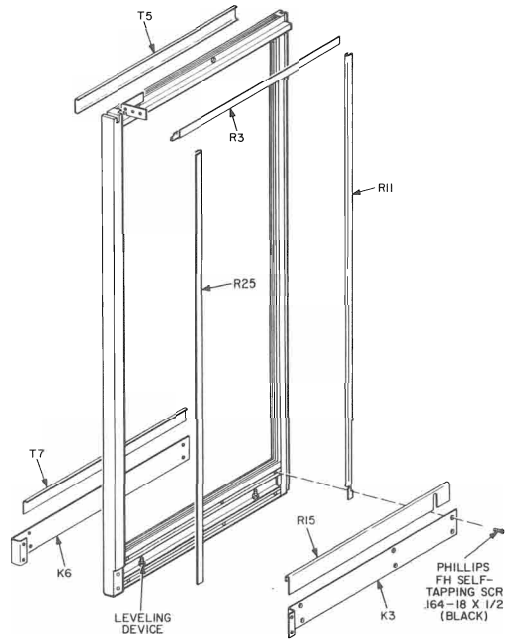
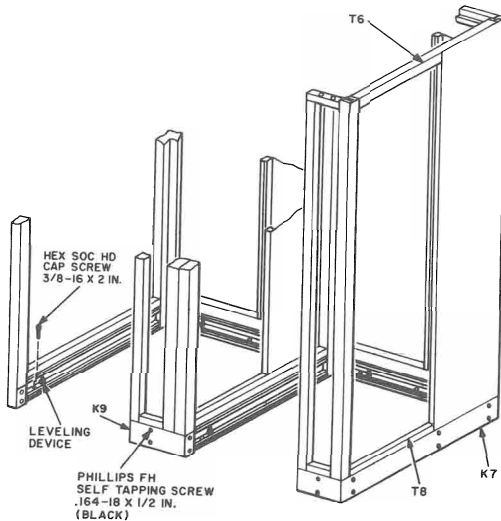

Fig. 15—Partial View of Left Wall
Fig. 16—Partial View of Two Booths
- (2) Place List 21 booth to the right of the previous booth and perform operations outlined in 3.06 through 3.10.
- (3) Remove R3 retaining strip from top left-inside wall of the booth being installed (Fig. 15).
- (4) Fasten booth walls together at top using two 1/4-20 by 1-1/2 hex socket head cap screws and at the bottom using two 1/4-20 by 3/4 hex socket head cap screws. Screws are furnished with List 21 booth.
- (5) Install R3 in its original position.
- (6) Install T6, T8, and K7 (Fig. 16) on the last right-hand booth of a line-up.
- (8) Install K9 kickplate (packaged separately) on the bottom-front-outside wall between booths (Fig. 16).
- (1) Remove and retain the following items from the previous existing or left end booth (Fig. 15):
- (3) Repeat 3.31 (3) through (7).
- (4) Repeat 3.22 (4).
- (5) Remove and retain the following items from the new booth.
- (6) Transfer B-651879 rails from the left wall of the new booth to the wall where the glass panel was removed.
- (7) Install all items retained in (1) and (5) on the left walls of the booths (Fig. 15).